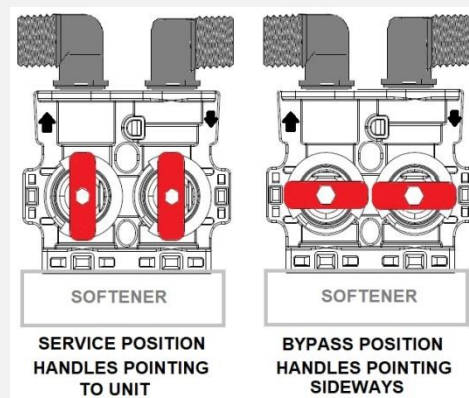

Fig 2
- Position the softener in the desired location. The unit comes with two 90° ¾" male NPT elbow fittings (see **fig 1**). You can rotate them at any angle to suit your installation. **Make sure that the bypass valve is in bypass mode as shown in fig 2.**
- Using the Allen key (included), **turn the bypass inlet slightly** (refer to **fig 2**) to allow water to run into the unit. The water should initially fill the tank slowly. Once the tank is full of water, you can open valve fully. This prevents resin from being pushed up into the control head by the initial surge of water going in.